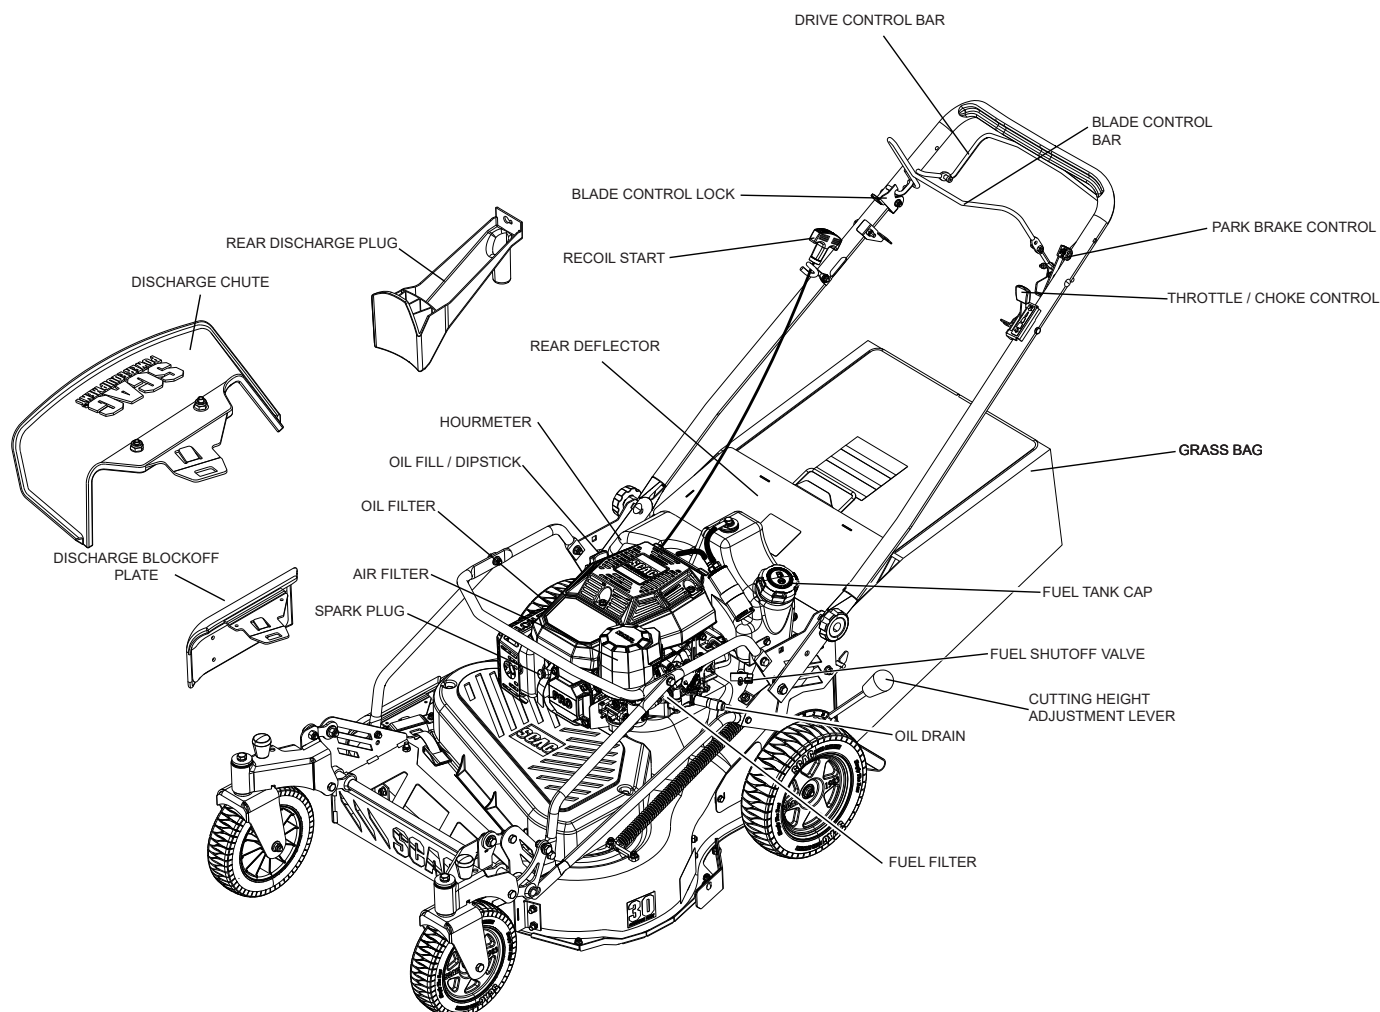

Figure 4-1. Controls and Instruments
- 1. Recoil Start (Figure 4-1).** The recoil start is used to start the engine.
- 2. Blade Control Bar (Figure 4-1).** Used to engage and disengage the cutter blade drive system. Pulling the control bar will engage the cutter blades. Releasing the control bar will disengage the cutter blades.
- 3. Engine Throttle / Choke Control (Figure 4-1).** Used to control the engine speed and choke control. Pushing the lever forward increases engine speed. Pulling the lever back decreases engine speed. Push the lever all the way forward past the detent to engage the choke when starting a cold engine. Full back position is the STOP position. Full forward to detent is the cutting position.
4. **Hourmeter (Figure 4-1).** Indicates the number of hours the engine has been operated. It operates whenever the engine is running.
5. **Drive Control Bar (Figure 4-1).** Used to engage and disengage the mower forward drive system.
6. **Parking Brake Control (Figure 4-1).** Used to engage and disengage the parking brakes. Push the lever forward to engage the parking brake. Pull the lever back to disengage the parking brakes.
7. **Blade Control Lock (Figure 4-1).** Use to lock the blade control bar in the neutral position.
8. **Grass Bag (Figure 4-1).** Use to bag and collect grass clippings while mowing.
9. **Fuel Tank Cap (Figure 4-1).** Use to fill the fuel tank with fuel.
10. **Fuel Shutoff Valve (Figure 4-1).** Used to shut off fuel supply to the engine.
11. **Oil Drain Valve (Figure 4-1).** Used to drain the oil from the engine.
12. **Cutting Height Adjustment Lever (Figure 4-1).** Used to set the cutter deck at the desired cutting height.
13. **Fuel Filter (Figure 4-1).** Used to filter the fuel supply to the engine. Refer to engine owner's manual supplied with this unit when servicing.
14. **Discharge Blockoff Plate (Figure 4-1).** Used to shut off the discharge of grass clippings out of the side discharge opening. Install when mulching or using the grass bag.
15. **Discharge Chute (Figure 4-1).** Used to allow the discharge of grass clippings out of the side discharge opening. Install when side discharging.
16. **Spark Plug (Figure 4-1).** Used to supply spark to the engine. Refer to engine owner's manual supplied with this unit when servicing.
17. **Air Filter (Figure 4-1).** Used to filter the air supply to the engine. Refer to engine owner's manual supplied with this unit when servicing.
18. **Oil Filter (Figure 4-1).** Used to filter the oil supply in the engine. Refer to engine owner's manual supplied with this unit when servicing.
19. **Oil Fill / Dipstick (Figure 4-1).** Used to add and check the level of oil in the engine. Refer to engine owner's manual supplied with this unit when servicing.
20. **Rear Discharge Plug (Figure 4-1).** Used to shut off the discharge of grass clippings out of the rear discharge opening. Install when mulching or side discharging.
21. **Rear Deflector (Figure 4-1).** Used to hold the grass bag and rear discharge plug in place during operation.